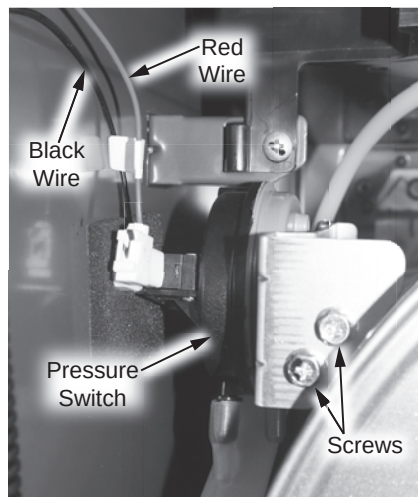

Figure 66 - Pressure switch location
4 Locate the pressure switch on upper left side of the water heater. See Figure 66.
5 Disconnect the black wire harness from the common (C) connector and the red wire harness from the normally closed (NC) connector. See Figure 66.
6 Remove and keep the two screws securing the pressure switch to the water heater. See Figure 66.
- 14** Reconnect the black wire harness to the common (C) connector. Reconnect red wire harness to the normally closed (NC) connector. See Figure 66.